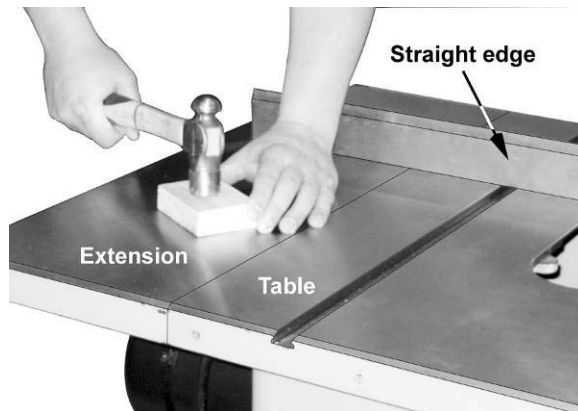

Figure 3
4. Level the extension wing with the saw table across its entire width (Figure 3) using a straight edge and a rubber hammer (or a metal hammer with a block of wood as shown).